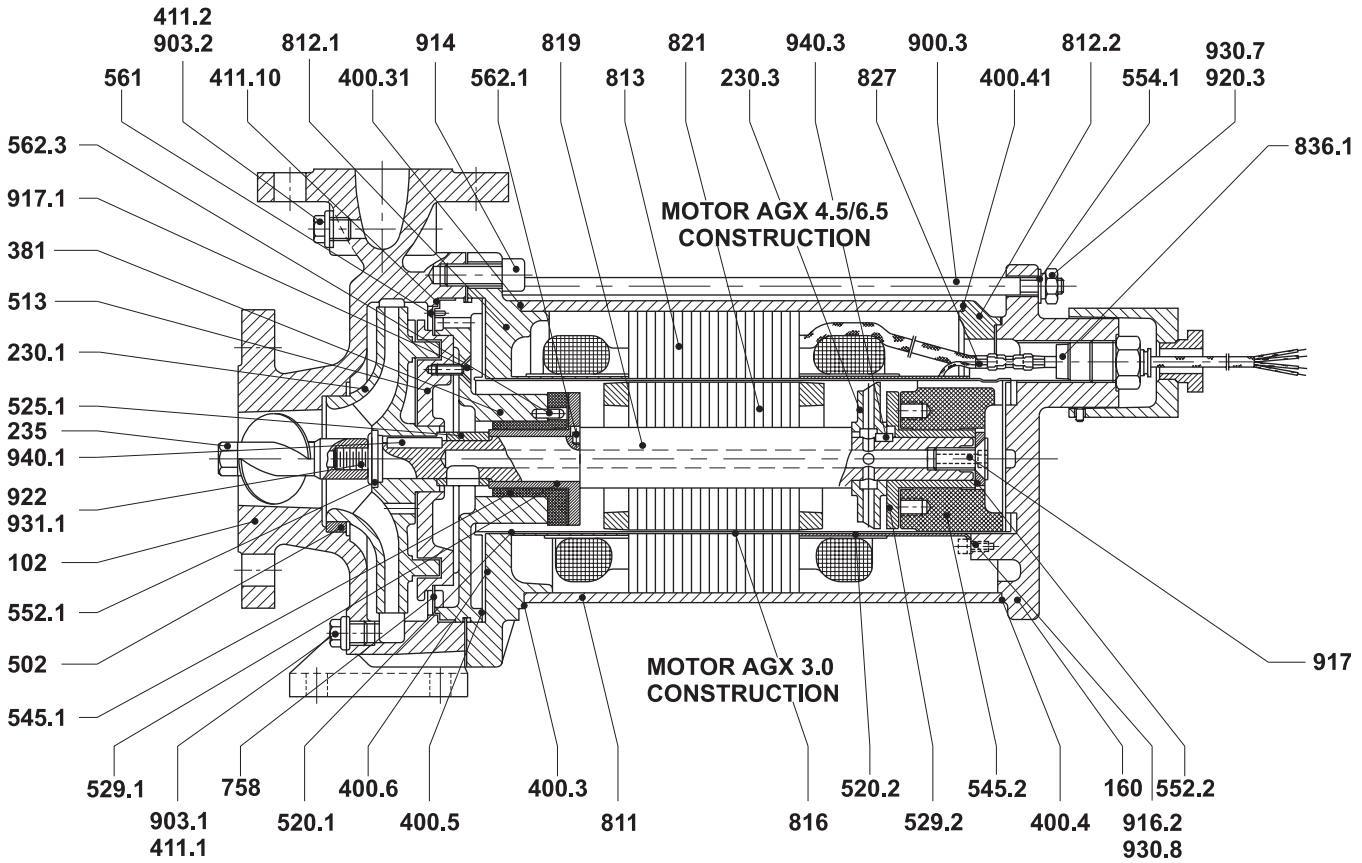

Figure 10
1. Loosen 8 socket (10 mm) screws (914) and withdraw the motor from the pump. Check the stator resistance per Stator Winding Inspection section.
2. To remove the rotor assembly, tap on the inducer to push the bearing insert (381), rotor, and impeller from the pump housing.
3. Bend up the tab washer (931.1) and remove the inducer (235) and the retaining plate (552.1). Withdraw the impeller (230) from the motor shaft (819). Take off the front bearing assembly (381).
4. To remove the auxiliary impeller and rear bearing and sleeve, loosen the countersunk hexagon (8 mm) screw (917) and withdraw the bearing sleeve (529.2) from the shaft.
5. Remove the carbon bearing (545.2) on the motor side with the help of the stator stud bolts (900.3); see Figure 10. To prevent bearing and stator lining damage, pull the bearing gently, pushing back if necessary to wipe dirt particles from the stator lining. Lightly oil the stator lining to facilitate removal of the carbon bearing.
8. Visually check stator lining "CAN" (816) for scratches, gouges, and dents. If the stator lining is damaged, return it to the factory or qualified motor repair shop for replacement.